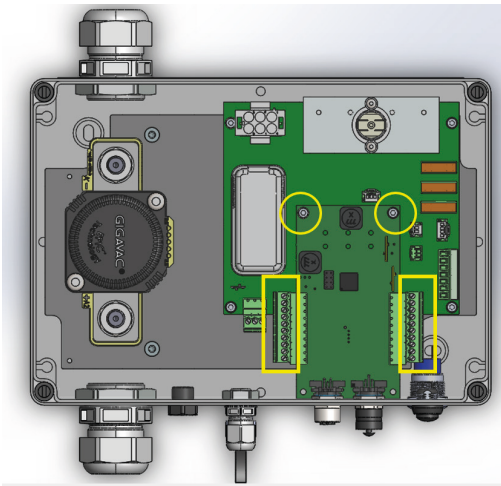

Figure 21. M3 Hex Screws and Connectors to disconnect
4. Using the M3 hex key, remove the 2 screws that fix the BCI board to the stand offs, and disconnect the 2 green connectors as shown in Figure 21